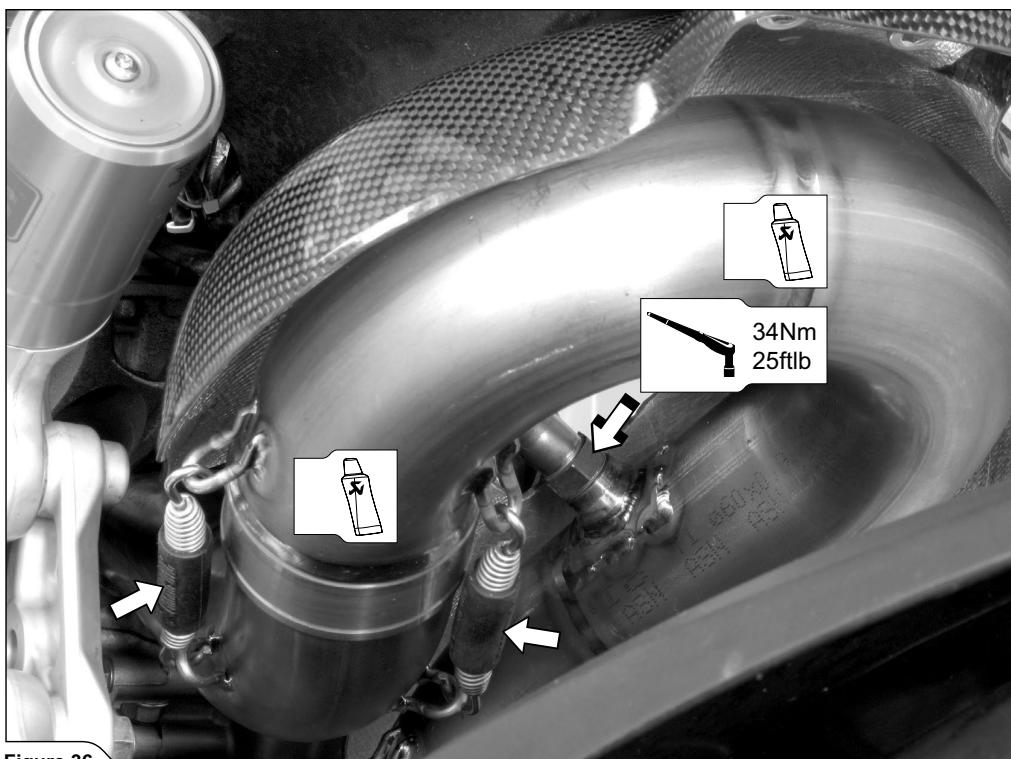

Figure 36
- Slide the rear link pipe onto the header, attach the springs and tighten the lambda sensor (Figure 36).